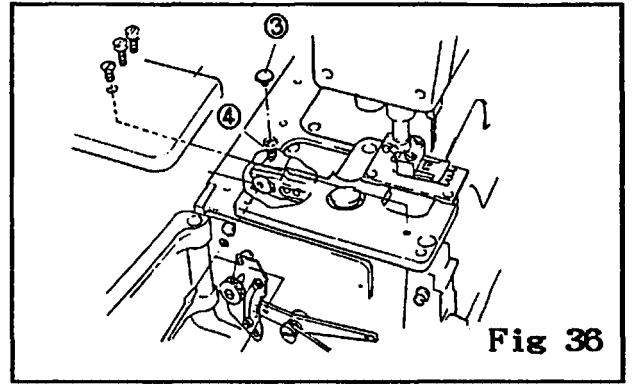

Fig 36
To adjust, loosen the screws (4)(5), and move the feed dog upwards or downwards. (Fig 36)